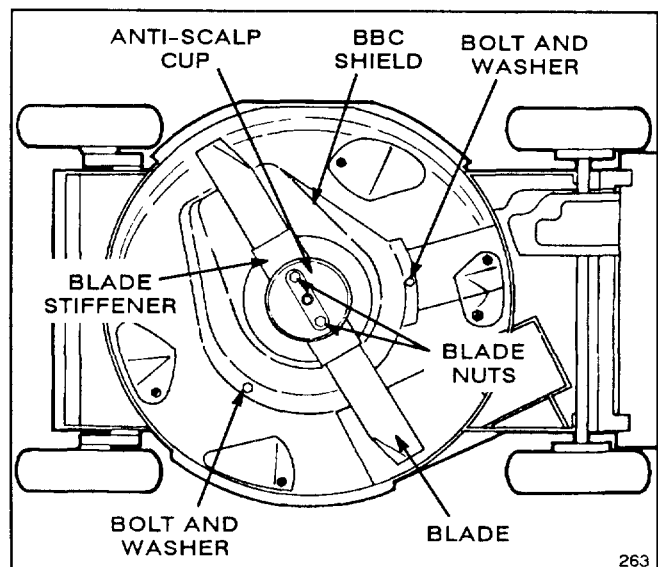

Figure 18
4. Remove (2) blade nuts, anti-scalp cup, blade stiffener, blade, blade spacer, and (3) bolts and washers securing BBC shield to mower deck (Fig. 18).
6. Reinstall BBC shield with (3) bolts and washers, blade spacer, blade, blade stiffener, anti-scalp cup, and (2) blade nuts.